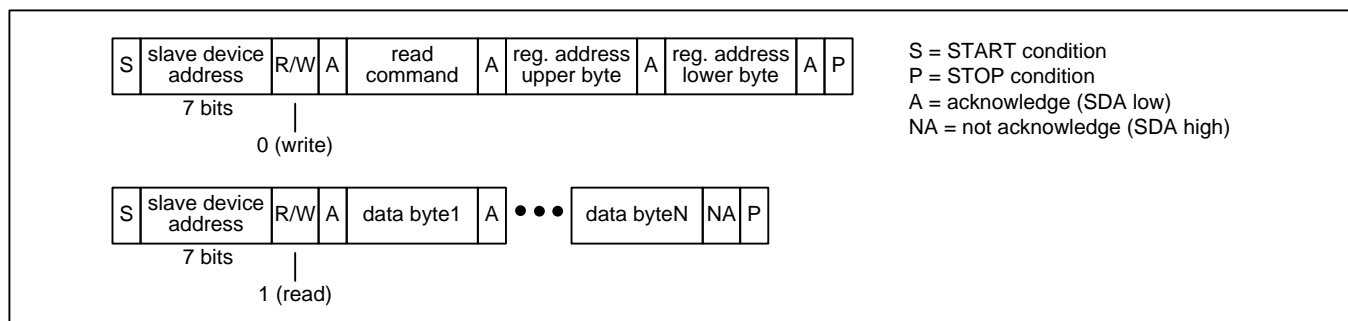
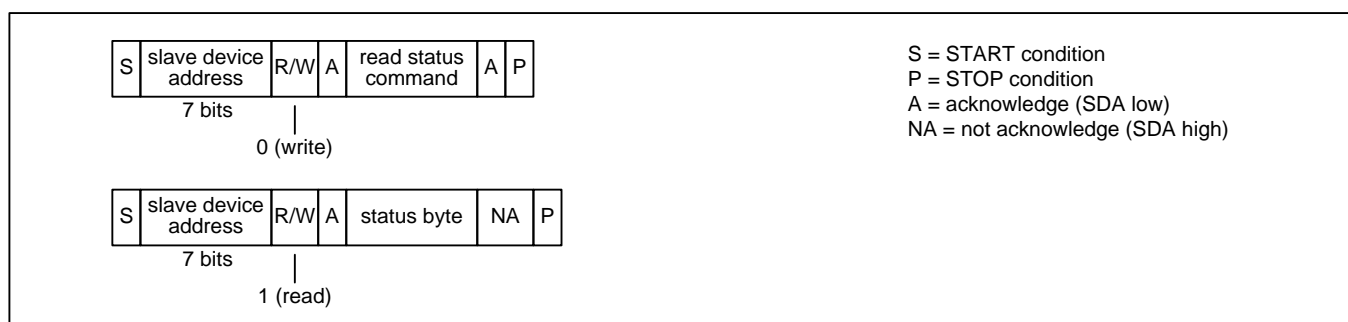

Figure 10 – I²C Read Transaction Functional Timing
Figure 13 – I²C EEPROM Read Status Transaction Functional Timing (ZL30251 Only)
Read Transactions. The device registers are accessible when EESSEL=0. On a ZL30251 the internal EEPROM memory is accessible when EESSEL=1. On ZL30250 EESSEL must be set to 0. The bus master first does an I²C write to the device. In this transaction three bytes are written: the SPI Read command (see Table 3), the upper byte of the register address, and the lower byte of the register address. The bus master then does an I²C read. During each acknowledge (A) bit the device fetches data from the read address and then increments the read address. The device then transmits the data to the bus master during the next 8 SCL cycles. The bus master terminates the read with a not-acknowledge (NA) followed by a STOP condition (P). See Figure 10. Note: If the I²C write is separated in time from the I²C read by other I²C transactions then the device only outputs the data value from the first address and repeats that same data value after each acknowledge (A) generated by the bus master.
EEPROM Read Status (ZL30251 Only). The bus master first does an I²C write to transmit the SPI Read Status command (see Table 3) to the device. The bus master then does an I²C read to get the status byte. In this byte, the least significant bit is set to 1 if the transfer is still in progress and 0 if the transfer has completed. See Figure 13.
Note: In Figure 10 through Figure 13, a STOP condition (P) immediately followed by a START condition (S) can be replaced by a repeated START condition (Sr) as described in the I²C specification.